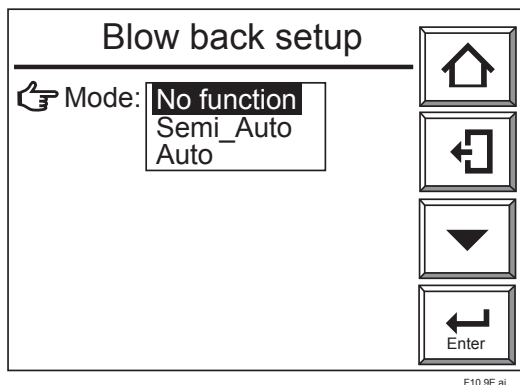

Figure 10.8 Blow back setup Display
- (1) From the Basic panel display, touch [Setup] key; on the Execution/Setup display which appears, select "Maintenance".
- (2) On the Maintenance display, select "Blow back setup" and the Mode selection pull down allows you to select between "No function", "Semi\_Auto" and "Auto" (see Fig.10.8).